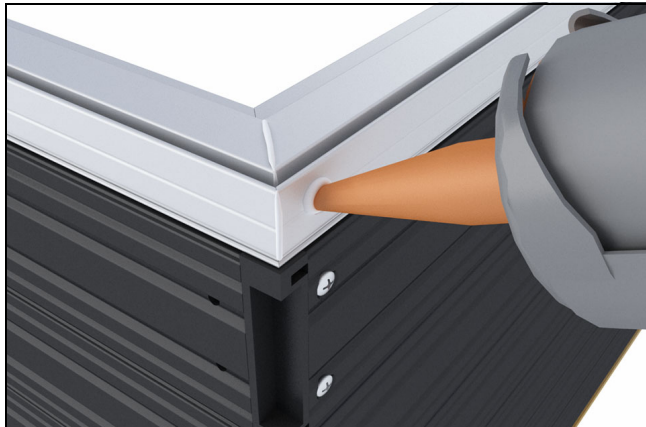

Figure 57
9. Inject both frame cladding corner key holes with sealant until squeeze out occurs. Fasten using a #8 x 1 1/2" flat head screw into each corner key. See figure 57.